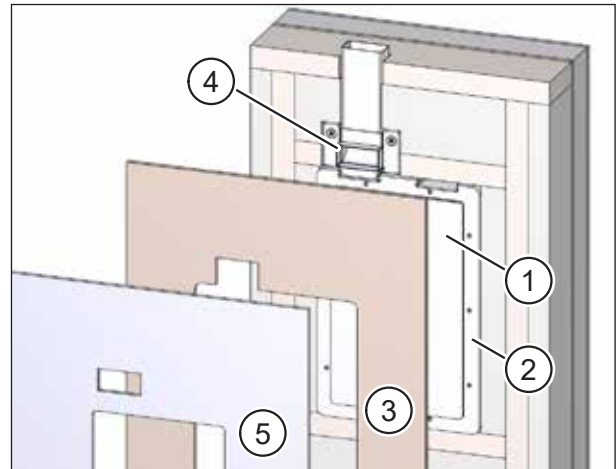

Fig. 33: Cladding the installation kit and flat ductwork / flexible pipes on the inside
- ▶ Make sure that the plaster cover (item 1 in Fig. 33) is seated in the wall box (item 2 in Fig. 33).
- ▶ Make a cutout in the OSB board (item 3 in Fig. 33) with the same dimensions as the wall box (item 2 in Fig. 33).
- ▶ If necessary, make a cutout in the OSB board (item 3 in Fig. 33) with the same dimensions as the flat ductwork elbow (item 4 in Fig. 33, only when connecting a flat ductwork or flexible pipe system).
- ▶ Make a cutout in the plasterboard (item 5 in Fig. 33) with the same dimensions as the plaster cover (item 1 in Fig. 33).
- ▶ If necessary, make a cutout in the plasterboard (item 5 in Fig. 33) with the same dimensions as the flat ductwork elbow (item 4 in Fig. 33, only when connecting a flat ductwork or flexible pipe system).
- ▶ Place the OSB board (item 3 in Fig. 33) on the wall box (item 2 in Fig. 33) and fix it to the frame construction.
- ▶ Align the cutout in the plasterboard (item 5 in Fig. 33) on the plaster cover (item 1 in Fig. 33) and fix the plasterboard in position.